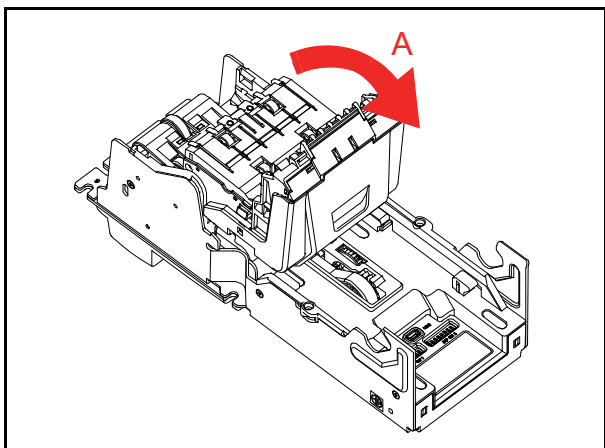

Figure 23 JAM Clear 4
4. Press the Unit Guide Open/Close Latches and rotate entire Upper Tray in direction indicated by the red arrow A (Figure 23).